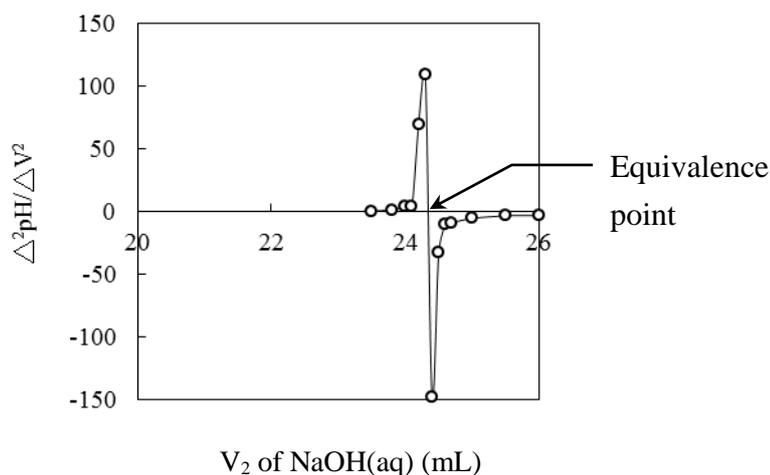

Figure 13-4 Second derivative of titration curve
3. The second derivative of titration curve: The changes in $\Delta pH/\Delta V$ value per unit volume of titrant added vs volumes of titrant added are plotted (Fig. 13-4). The point at which its $\Delta^2 pH/\Delta V^2$ equals 0 (in the graph, the x-intercept of the straight line) is the equivalence point. This is the most accurate of the three methods.